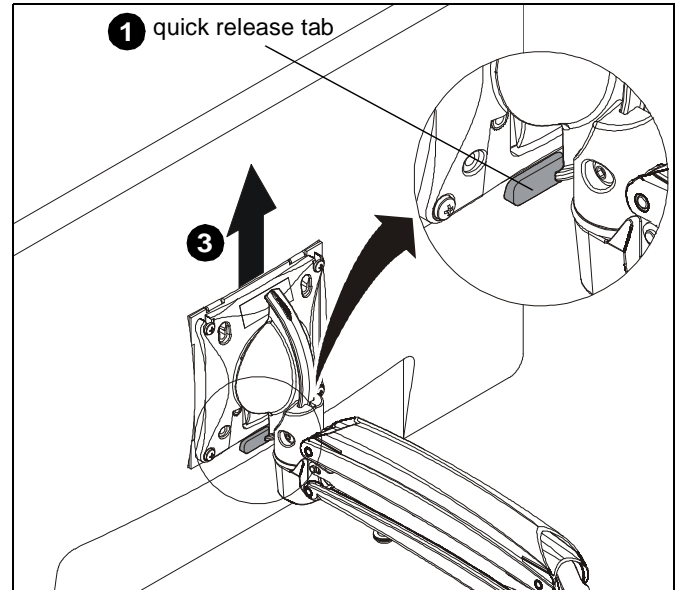
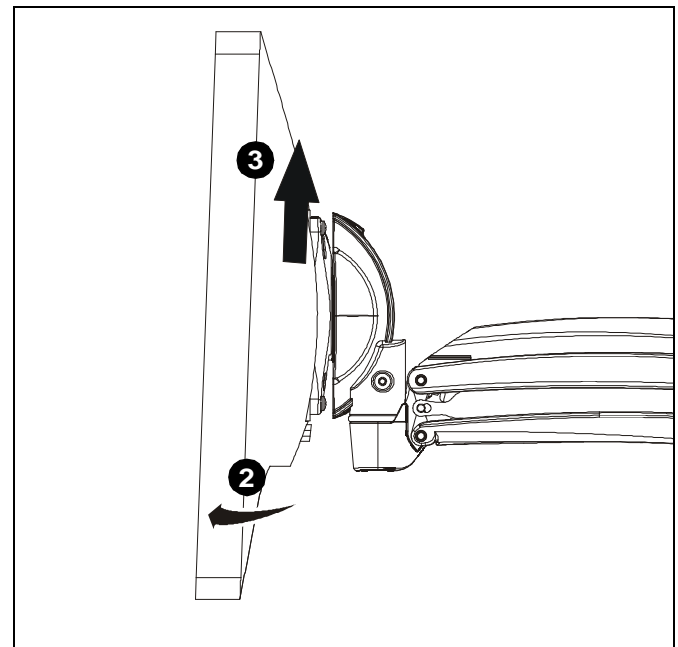

Figure 4
Figure 5
WARNING: Only remove display from mount when the display can be lifted up from the mount! DO NOT remove display unless the display is in the upright position! (See Figure 4)
- Press quick release tab on back of display to release display from faceplate. (See Figure 4)
- Pull bottom of display away from faceplate. (See Figure 5)
- Lift display up from faceplate. (See Figure 4) and (See Figure 5)